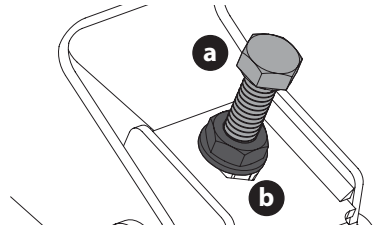

Figure 39
3. Locate the adjustment bolts (a) on the left and right side of the deck (Figure 39).
4. Loosen, but do not remove, the jam nuts (b) on the adjustment bolt. Adjust either the right or left adjustment bolt up or down as necessary until the side-to-side heights are equal (Figure 39).
5. When proper adjustment is achieved, re-tighten the jam nuts (b). Tighten to 200 in-lbs (23 N-m) (Figure 39).